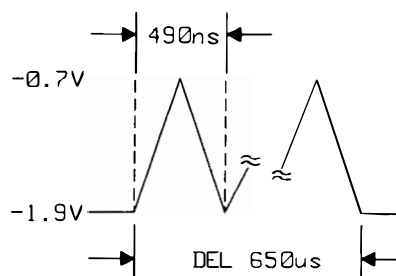

Figure 10.3-12. Delay Generator ramp signal pin 20
3. Check the ramp signal at pin 20 of U220 against Figure 10.3-12.